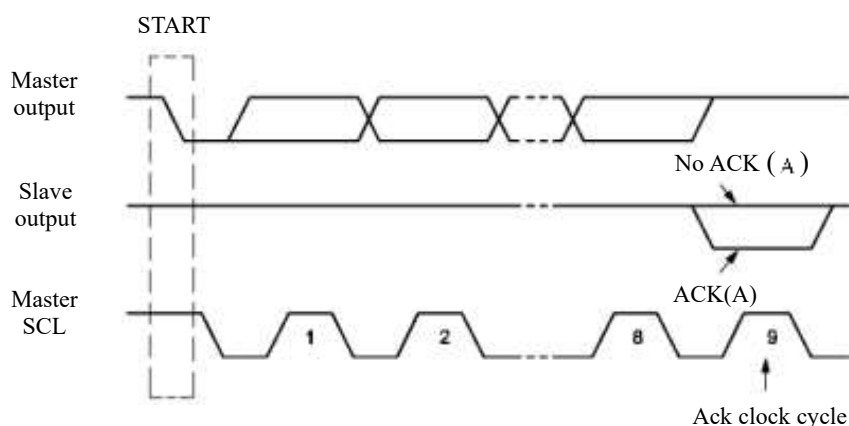

Figure 15-5 IIC bus acknowledge signal
Restart signal (repeated START): on IIC bus, master send a start signal to start-up one time communication, before first time sending stop signal, by sending a repeated start, master can change the communication mode with current slave or switch to communicate with other slaves. As figure 15-5 shown, when SCL is high, SDA transition from high to low, a repeated start signal is generated, it is a start signal essentially.
Acknowledge signal (A): after slave received 8 bit data, it will send to master a special low level. Every byte must be followed by a acknowledge bit to indicates data has been received. Acknowledge appeared at the 9th clock cycle, the master must release data line at this time, and slave pull down the SDA line to generate acknowledge signal, or slave maintain the SDA line as high to generate a no acknowledge( $\bar{A}$ ), as Figure15-5 shown. So one byte transmission needs 9 clock cycle. If slave as receiver send no acknowledge signal to master, the slave will end the transmission, and release SDA line. Any above cases will end the data transmission. At this time master sends stop signal to release bus, or generates repeated start signal to restart a new transmission. Start signal, repeated start and stop signal are all controlled by master, acknowledge signal is generated by receiver.